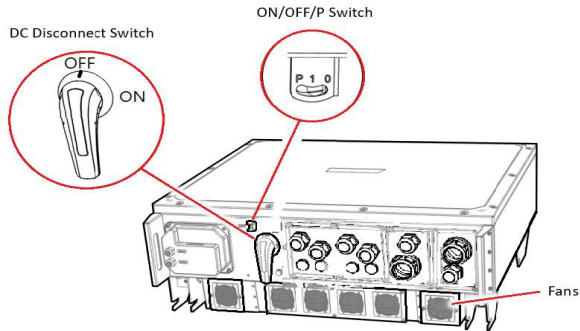

Figure 38 Removing the Fans
1. Turn ON/OFF/P Switch of the inverter to OFF (0) (See Figure 38).